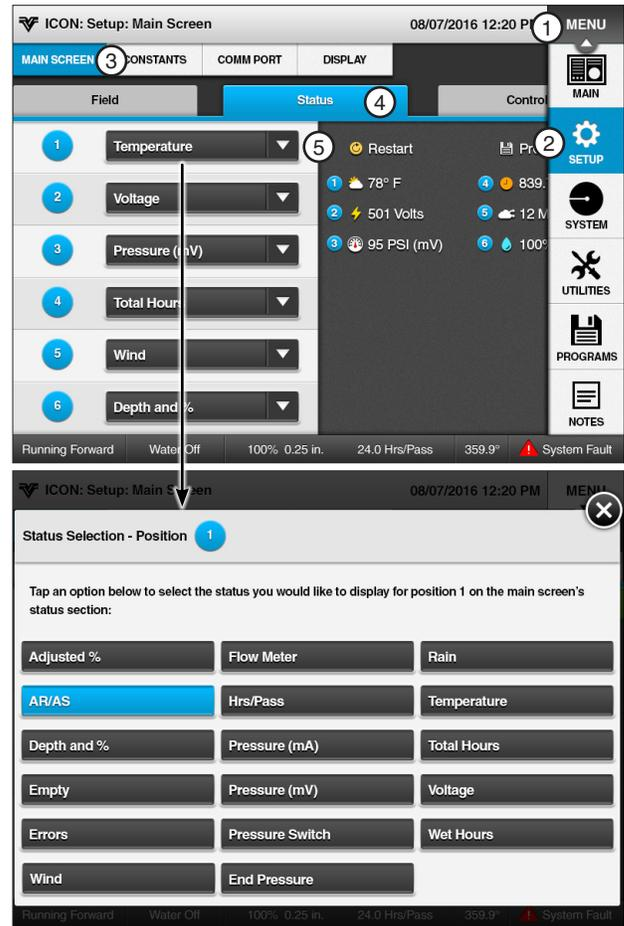

Figure 13-1 1. Menu 2. Setup 3. Main Screen 4. Status 5. Status Drop-Down
1. To set the Main Screen status lines, push **Menu**, **Setup**, **Main Screen** and **Status** to display the Status screen. Refer to Figure 13-1.